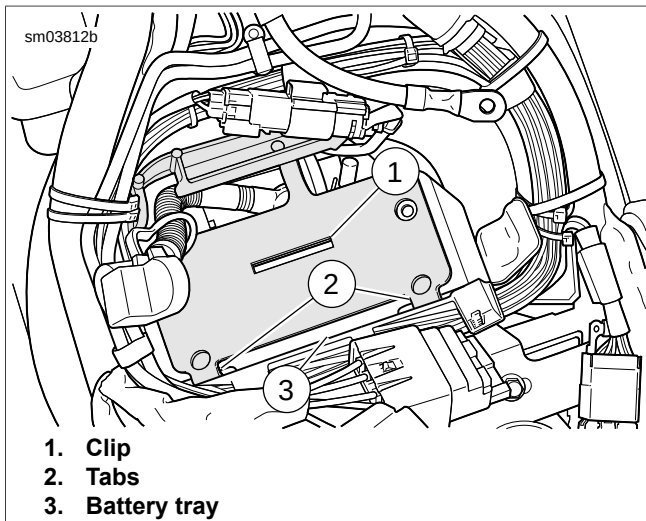

Figure 1-52. Battery Caddy
- See Figure 1-52. Place battery caddy into position and install battery caddy clip (1) under front of battery tray (3). Make sure tabs (2) of battery caddy fit over rear of battery tray.